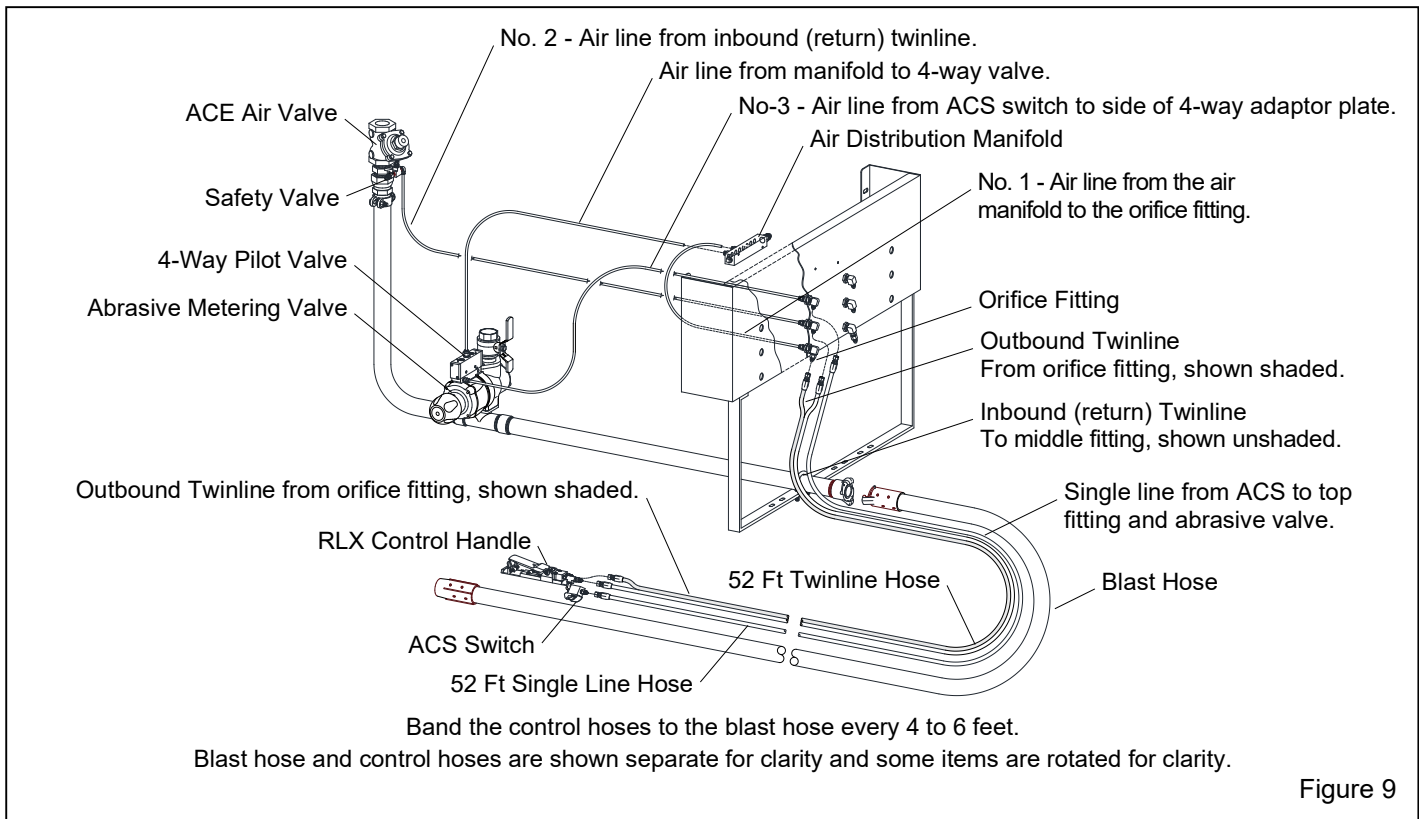

Figure 9
2.3.3 Connect the blast hose and control hose to the blast machine – Figure 9
2.3.3.4 Attach the remaining side (inbound side) of the 52-ft twinline to the middle fitting, as shown in Figure 9.